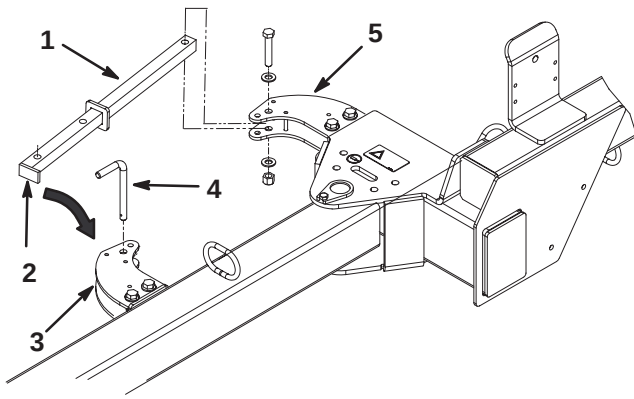

Figure 4
2. Insert the welded tab end of the actuator arm between the welded pins in the front actuator tab (Fig. 4).
3. Secure the actuator arm to the front actuator tab with a hitch pin (Fig. 4).
4. Insert the rear end of the actuator arm into the rear actuator tab while aligning the mounting holes (Fig. 4).
5. Secure the actuator arm to the actuator tab with a 1/2-13 x 2-3/4" lg. capscrew, (2) .531 x .063 flat washers and a 1/2-13 locknut. Position components as shown in figure 4.